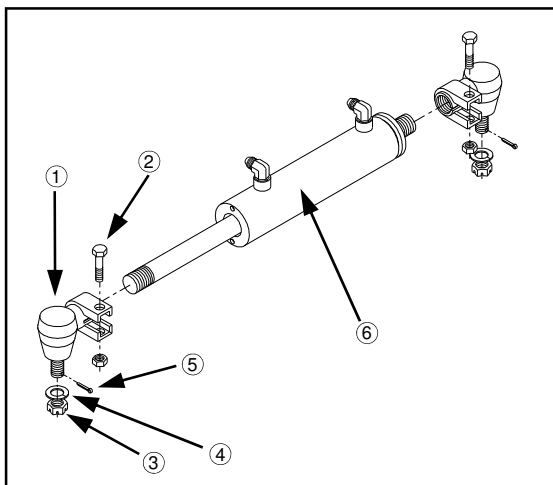

FIG 8.57
1. Remove cotter pin (fig. 8.57, item 5), castle nut (fig. 8.57, item 3), and lock washer (fig. 8.57, item 4).
2. Loosen lock collar bolt and nut (fig. 8.57, item 2).
3. Lightly tap swivel assembly (fig. 8.57, item 1) out of steering arm.
5. Screw swivel assembly in or out on steering cylinder (fig 8.57, item 6) until the treaded part lines up with steering arm.